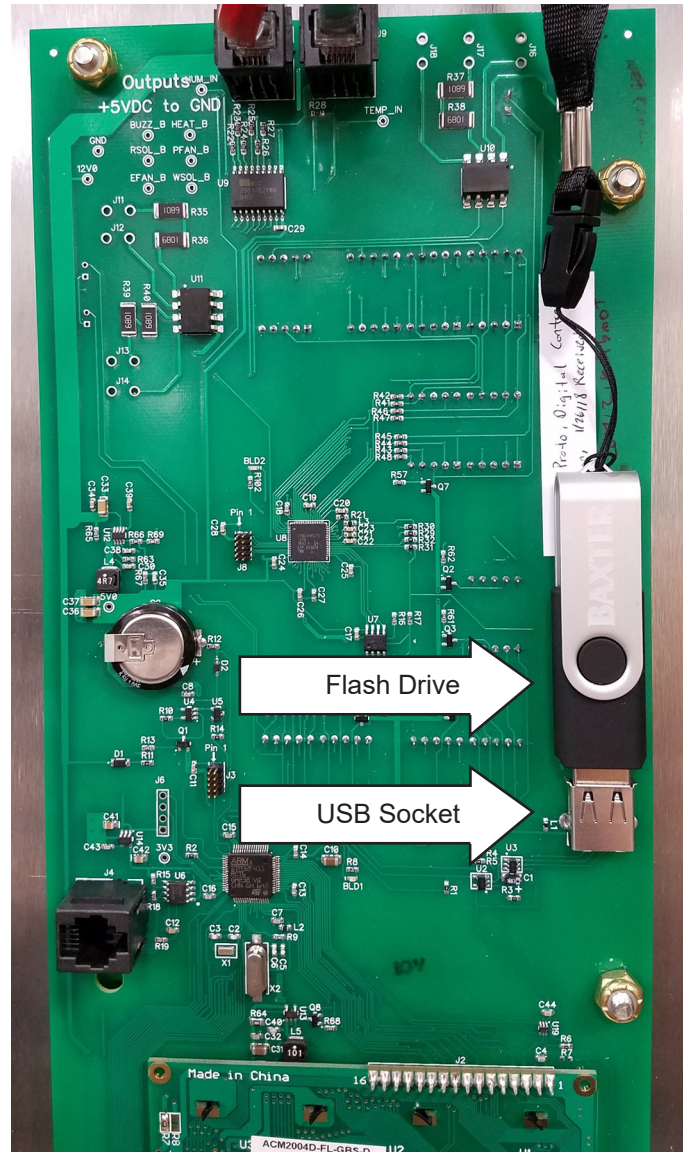

Fig. 24
3. Insert the flash drive into the proofer's USB socket (Fig. 24).